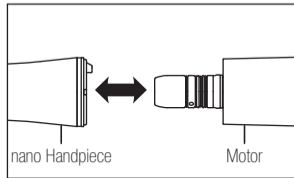

Fig. 1
- 1) Insert the handpiece direct into the motor (Fig. 1). Screw the handpiece until it clicks and locks into position.